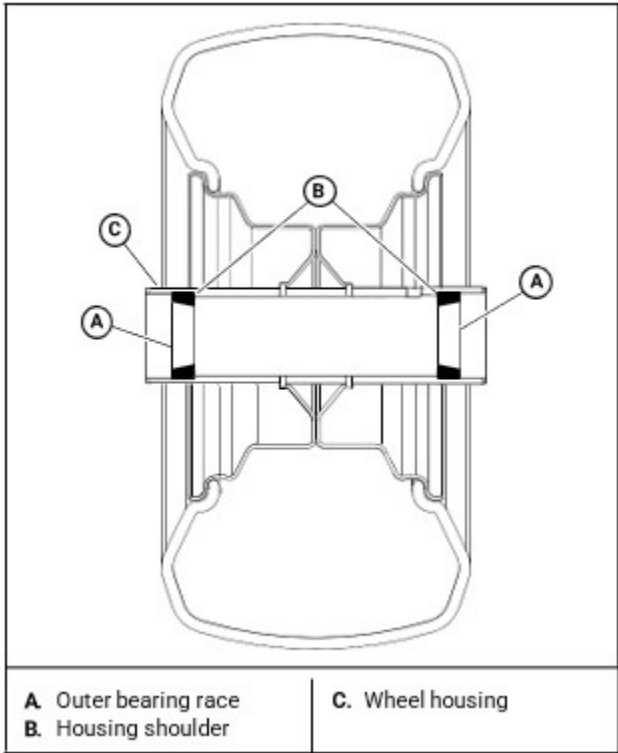

Figure 38
1. Press the new outer bearing races into the wheel housing until they are fully seated against the housing shoulder. [Figure 38]